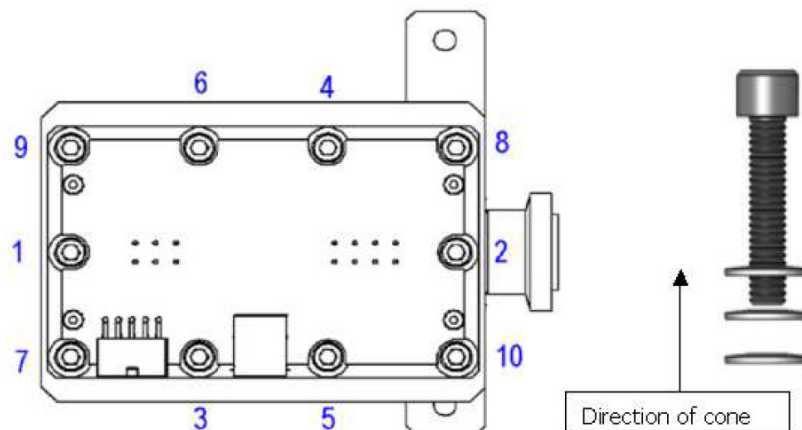

Figure 2-11. Tightening spectrometer header screws
24. Insert a screw with three Belleville washers into each hole and finger tighten (see Figure 2-11).
25. Follow the torqueing pattern in Figure 2-11). Torque screws to 40 in-lbs (4.5 N-m).
27. Wait a minimum of five minutes, then torque the screws again in the same pattern (Figure 2-11) to a value of 90 in-lbs (10.2 N-m). This wait period allows the washers to decompress.
26. Insert a screw with three Belleville washers into each hole and finger tighten (see Figure 2-11).